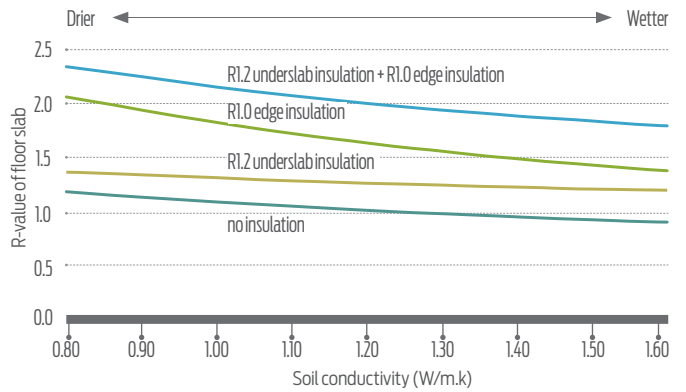

Figure 3: Impact of soil conductivity.
- soil conductivity when edge insulation is included (see Figure 3).